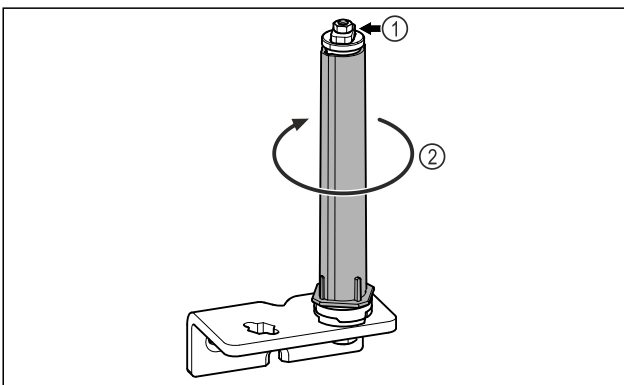

Fig. 22
▶ Do not disassemble the door locking system Fig. 22 (1).
▶ Turn the locking system Fig. 22 (2) until it clicks.